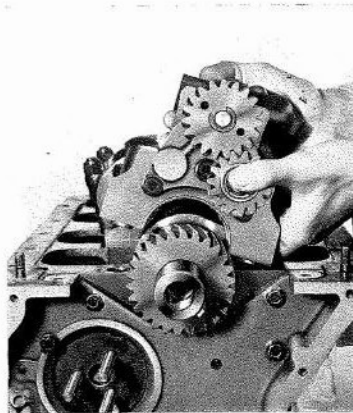

Fig. P.3.
6. Remove No. 1 main bearing cap and pump as one assembly. (See Fig. P.3).